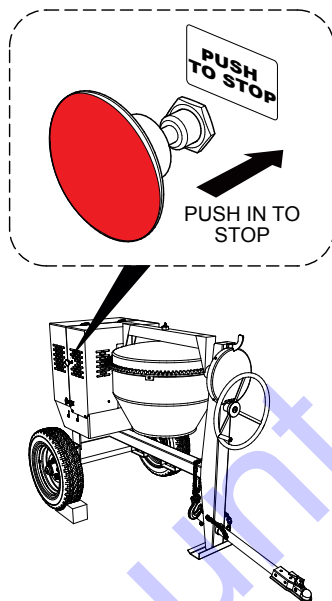

Figure 25. Start/Stop Button (Stop Position)
2. Push the engine **start/stop** switch (Figure 25) inward to stop the engine.